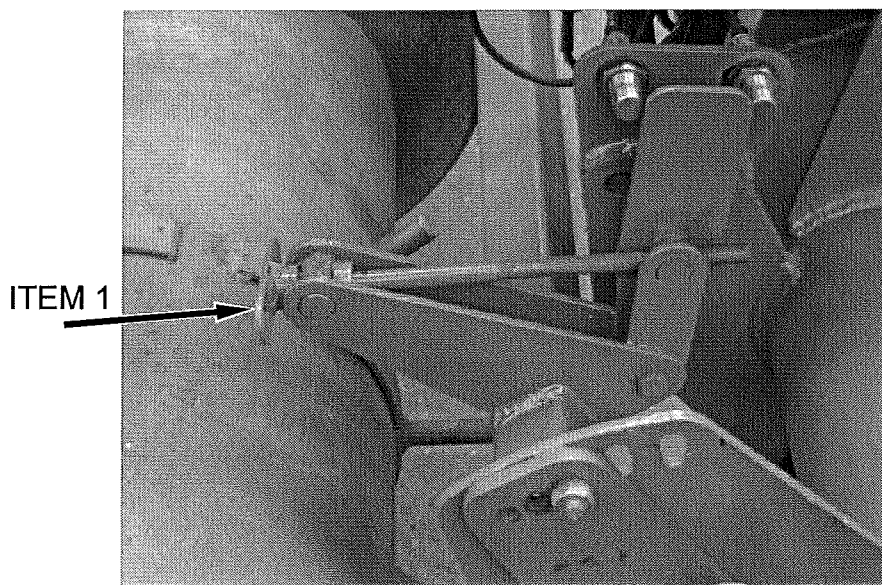

Fig 7.2
By adjusting the relationship between diablo and trigger plate the depth is altered. This is achieved by turning the handle (fig 7.2 item 1) to increase or decrease the depth.